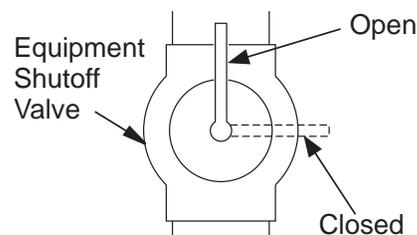
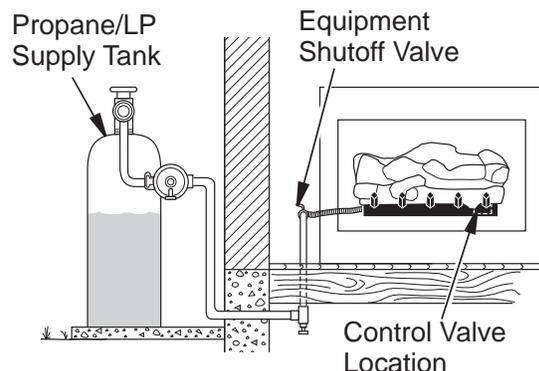
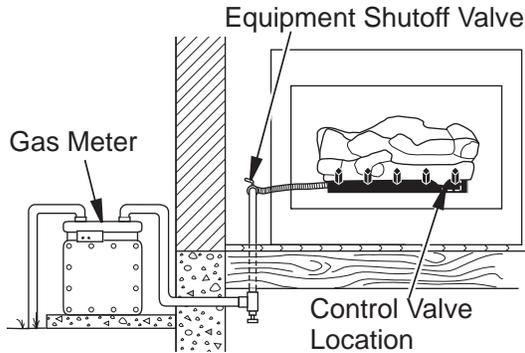

Figure 14 - Equipment Shutoff Valve
Figure 15 - Checking Gas Joints (Propane/LP Only)
Figure 16 - Checking Gas Joints (Natural Gas Only)
1. Close equipment shutoff valve (see **Figure 14**).
3. Check all joints from gas meter to equipment shutoff valve for natural gas or propane/LP supply to equipment shutoff valve for propane/LP (see **Figure 15** or **Figure 16, Page 16**). Apply noncorrosive leak detection fluid to all joints. Bubbles forming show a leak.
1. Open equipment shutoff valve (see **Figure 14, Page 15**).
4. Check all joints from gas meter to equipment shutoff valve for natural gas or propane/LP supply to equipment shutoff valve for propane/LP (see **Figure 14, Page 15** or **Figure 16**). Apply noncorrosive leak detection fluid to all joints. Bubbles forming show a leak.